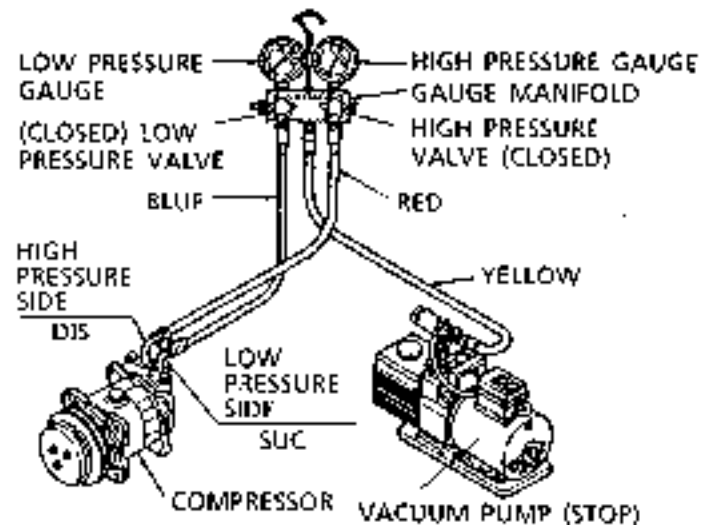

Fig. 23 Connecting gauge manifold
#### (1) Connecting Gauge Manifold (See Fig.23.)